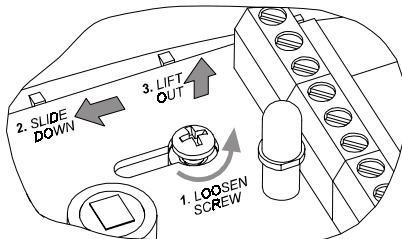

Figure 4. PCB Removal
- B. Loosen the vertical adjustment screw, slide the PCB down and remove it via the "keyhole" (see Figure 4).
- B. Remove the PCB (see Figure 4) and put it temporarily aside.